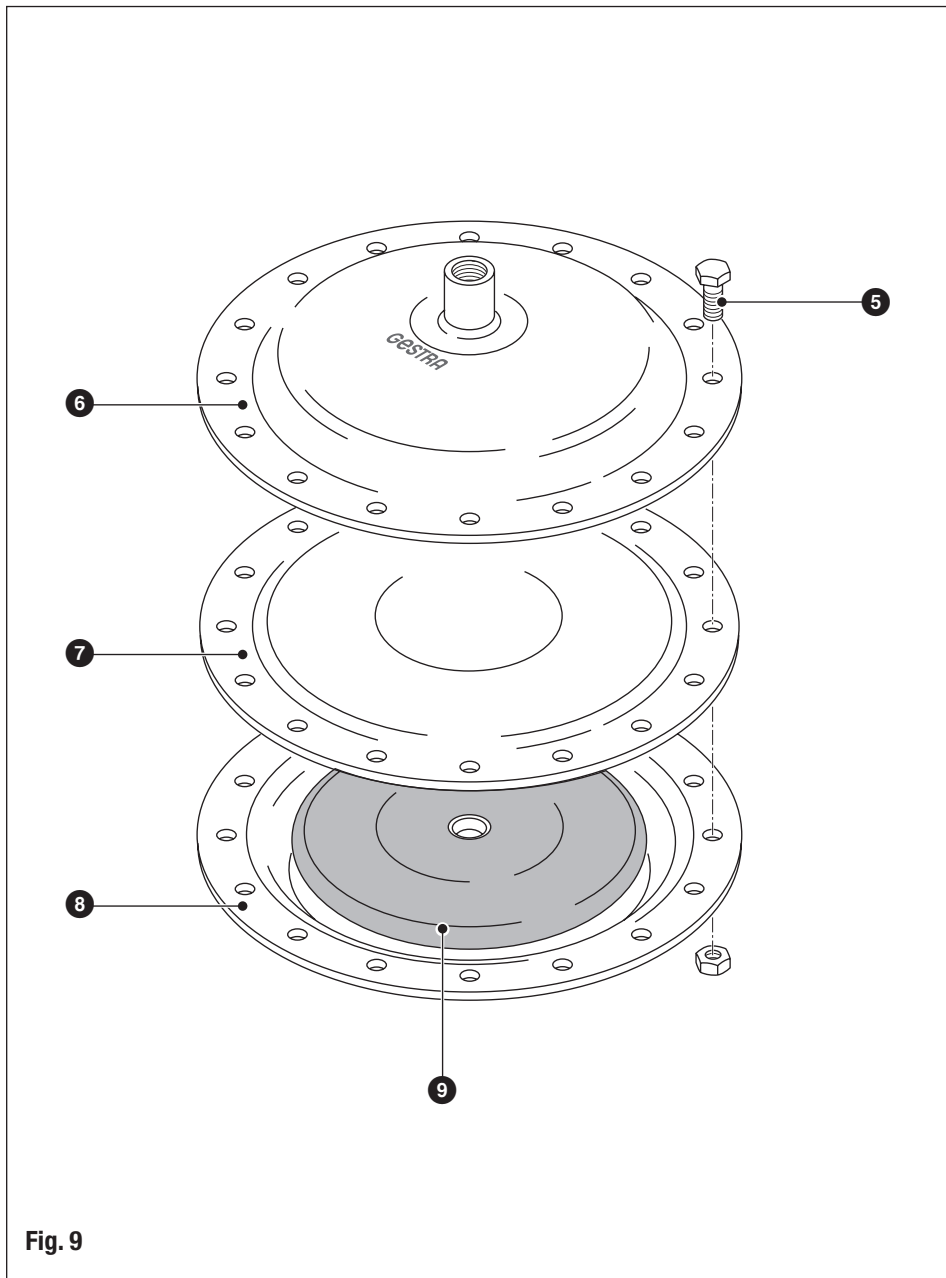

Fig. 9
2. Unscrew hexagon-head bolts ⑤ and hexagon nuts. **Fig. 9**
3. Remove and clean upper part ⑥ of the diaphragm actuator.
4. Take out old control membrane ⑦. Clean lower part ⑧.
5. Insert new control membrane ⑦, aligning its holes with the holes of the lower part.
6. Put upper part ⑥ on top and align its holes with the holes of the control membrane and the lower part.
7. Insert hexagon-head bolts ⑤ and tighten them with the respective hexagon nuts in diagonally opposite pairs to a torque of **5 Nm**.
9. Check tightness. If necessary retighten hexagon-head bolts ⑤ carefully in diagonally opposite pairs.
10. To grease the guide plate pin ⑨ apply lubricant to the grease nipple in the connecting socket of the diaphragm actuator (use e. g. WINIX 5000).